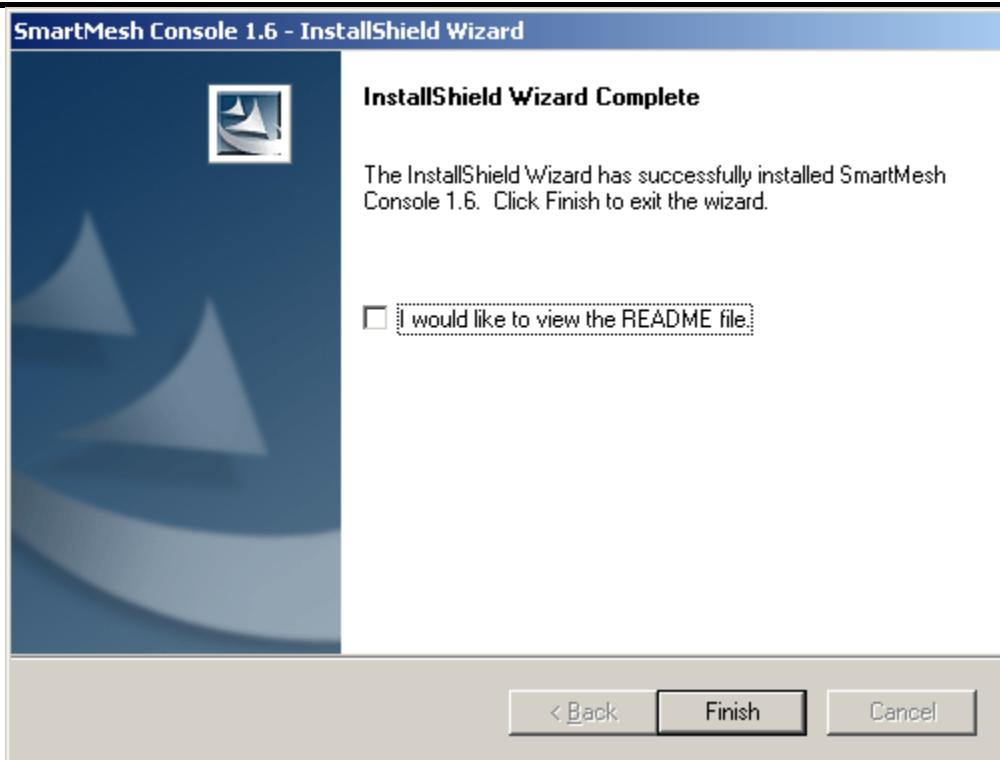

Figure 2-8: SmartMesh Console 1.6 Installation Complete
6. When the Smart Mesh Console application has been installed, the wizard displays an InstallShield Wizard Complete message, see Figure 2-8.